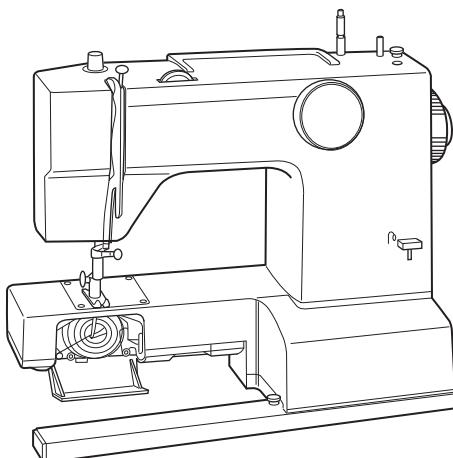

Fig. 1
- 1** Fig. 1 shows a basic sewing machine.